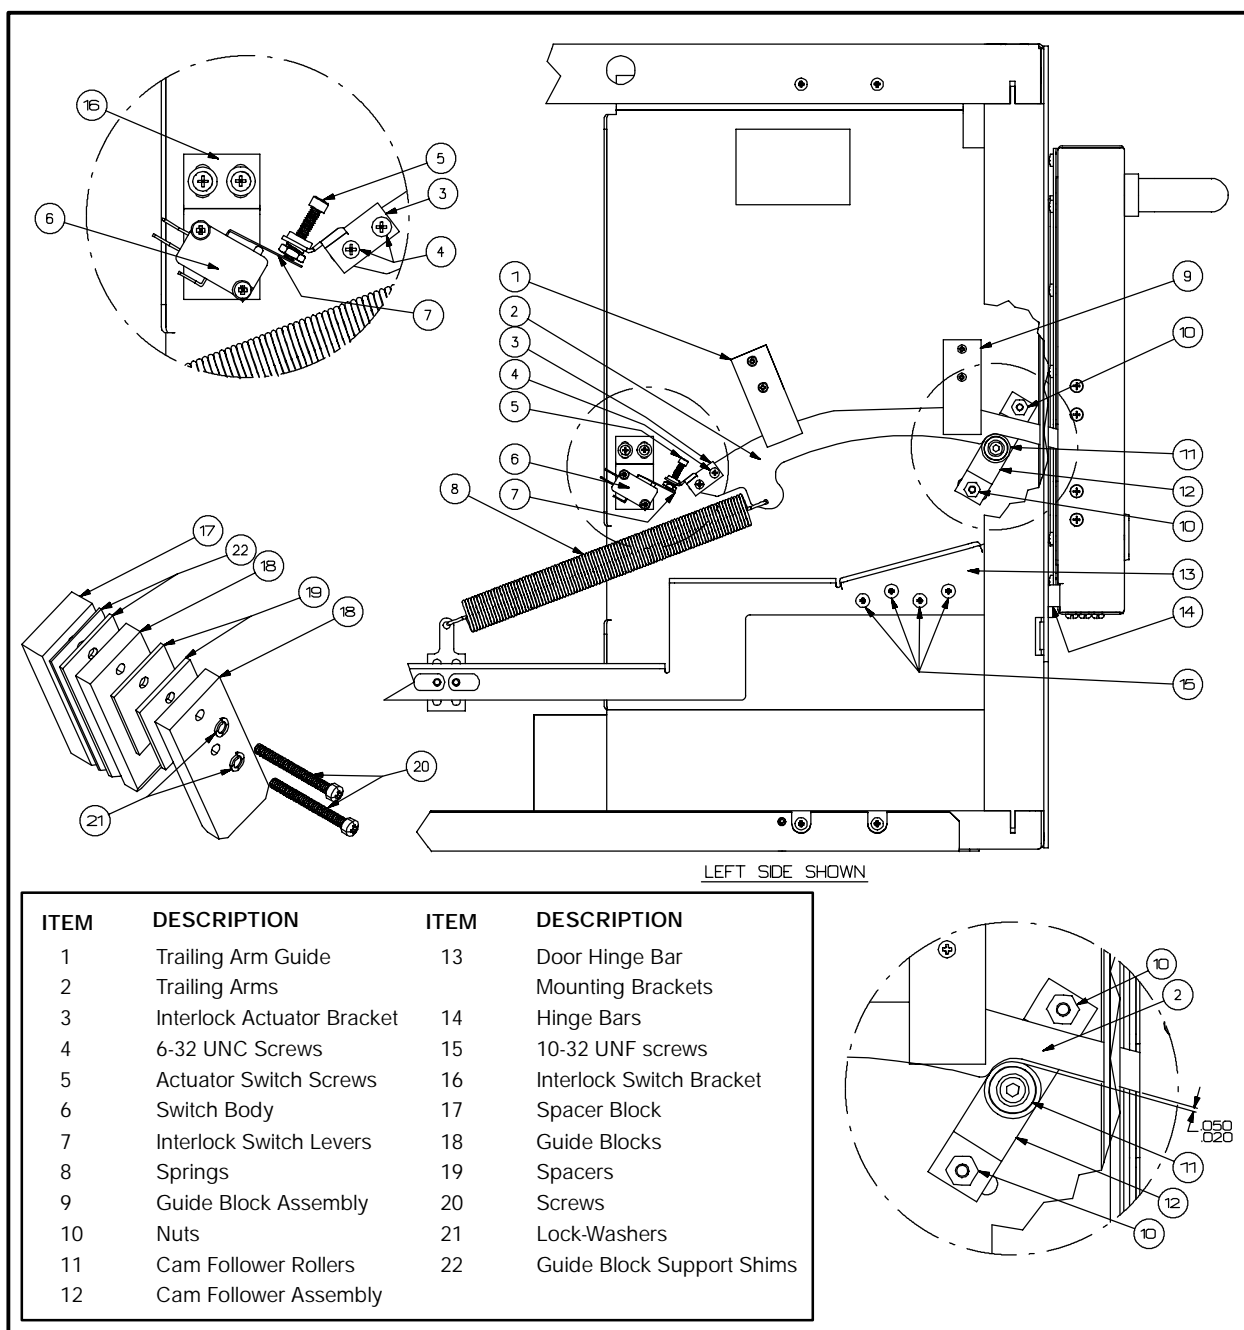

FIGURE 4
9. Before starting to do any adjustments, review FIGURE 4. In the upper left hand side of Figure 1 is a detail of the door switch and its actuating screw. Compare this figure to the door switches on the C70 oven with the oven door is closed. The activator switch screw (5) must be engaging the door switch interlock switch lever (7). If these two parts are not engaging, it may be necessary to move the whole switch assembly by adjusting the two Phillips screws holding the door switch assembly in place.
10. Be sure the actuator switch screw at any time during this door switch adjustment is not over-driving the interlock switch lever (7) so that it is hitting the switch body (6).